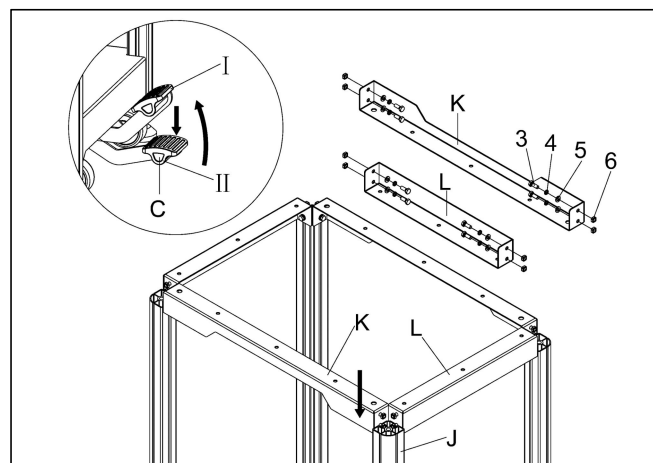

Fig.8
Finally, insert the top bracket (K) from the top of the leg (J), so that the square nuts are mated with the slots on the leg (J). Align the top bracket (K) to be flushed with the leg, and hand tighten the bolt to temporarily hold the bracket in place. Using the provided wrenches, tighten the bolt to secure the bracket. Repeat this step to install the remaining brackets (K) and (L) as shown in **Fig.8**.